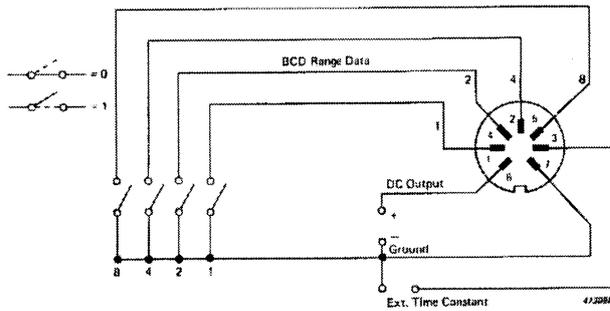

Fig. 3.6. Connections to rear panel DIN socket
The range setting of the 2426 may be controlled remotely by connection to the BCD input of the DIN socket on the rear panel. Multiplying the decimal value of the code by 10 gives the number of dB above the 1 mV range. The BCD code used for range selection is given in Table 3.1 with "0" corresponding to a short circuit and "1" to an open circuit. Thus no active electronics are required for remote range control, but a simple mechanical switch arrangement as shown in Fig.3.6 may be used. However, any active logic electronics operating on + 5 V DC may also be used.
3. Connect the BCD data output of the 2426 to external instrument. See Fig.3.6 and Table 3.1 for connection diagrams and range code.
The DC output from the rectifier circuits of the 2426 is available between pins 6 (positive) and 7 (ground) of the DIN socket of the rear panel (Fig.3.6).
The averaging time of the RMS circuit will be increased by 1 second for every $2,5\ \mu\text{F}$ capacitance connected across pin 3 (positive) and pin 7 (ground) of the DIN socket (Fig. 3.6). Thus the total averaging time will be equal to the sum of the internal averaging time (0,27 s for "Fast", 3 s for "Slow" METER DAMPING) and the external averaging time (1 s per $2,5\ \mu\text{F}$). For example, for the "Slow" METER DAMPING, a $10\ \mu\text{F}$ capacitor will increase the averaging time of the RMS circuit from 3 to 7 seconds.
The decay time of the "Peak" circuits of the 2426 may be changed by the connection of an external capacitor or resistor to pins 3 and 7 of the DIN socket (Fig. 3.6).